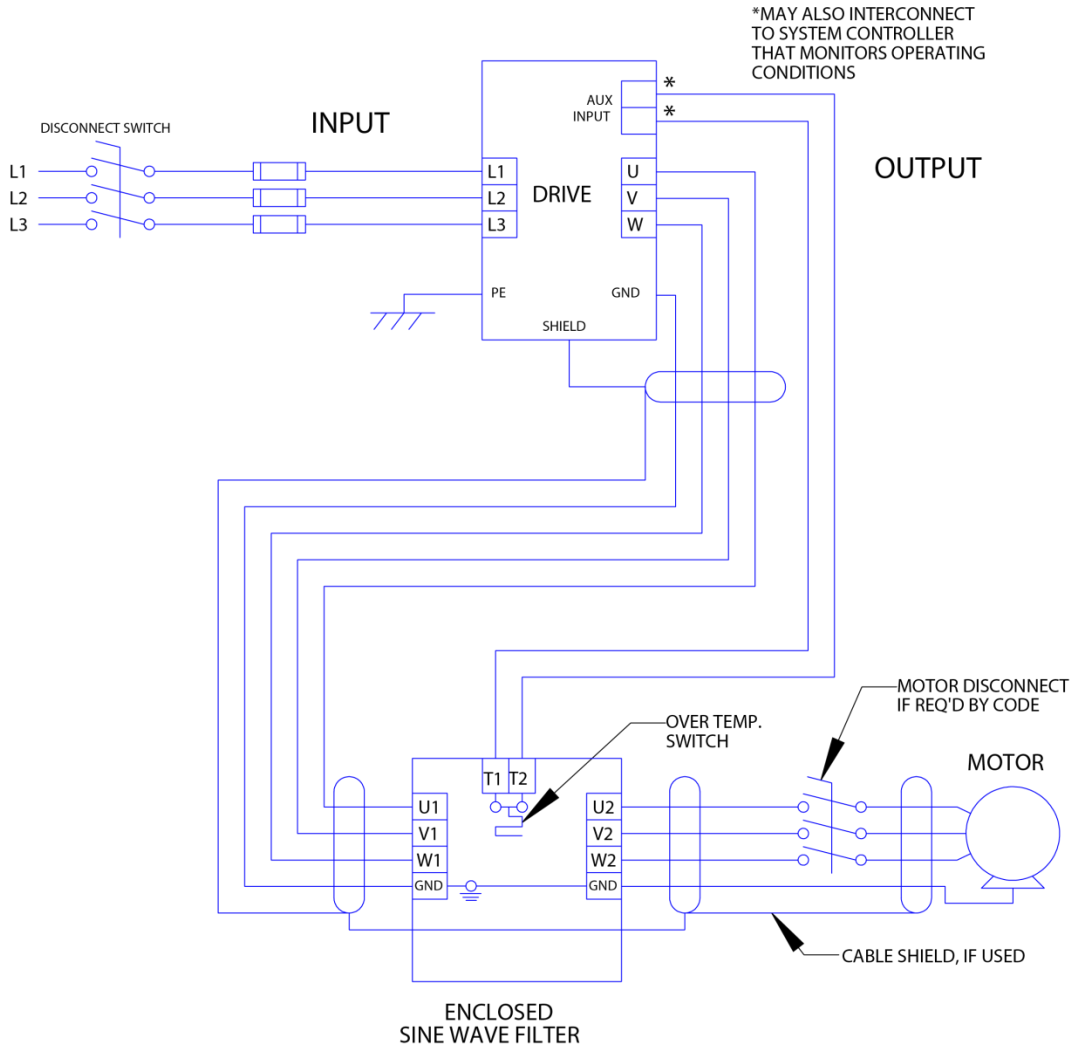

Figure 3-3: Enclosed Interconnection
- For filters supplied in general purpose NEMA 2 & 3R cabinets, interconnection between the filter, its power source, and the drive is shown in Figure 3-3 (p13).